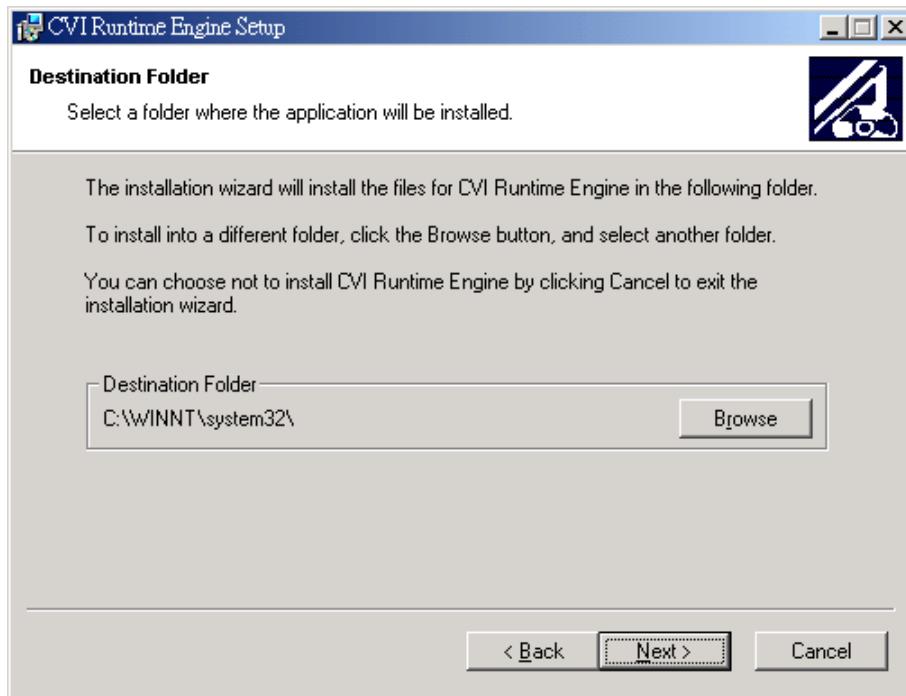

Figure 2-23 Selecting NI CVI Installation Path
15. The window shows the installation path for NI CVI. The program is default installed in C:\WINNT\system32 as Figure 2-23 shows. To change it, click **Browse** and specify the path for installation. Click **Next** to proceed.